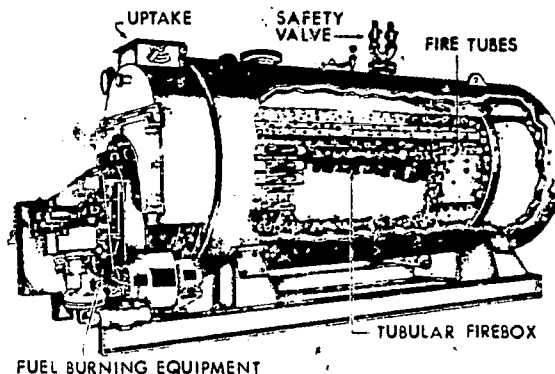

Figure 33. A Scotch marine boiler.
21. The Scotch marine boiler, shown in figure 33, is popular because of its compactness. It is tubular in shape and has a built-in-firebox that extends lengthwise through its center. The Scotch marine boiler is a portable or package unit and can be moved with ease and with a minimum of foundation work. It is a complete self-contained unit which includes automatic controls, steel boiler, and burner equipment. These features are ad-